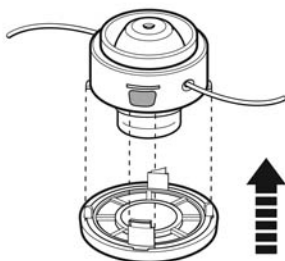

Fig. 35
- > Align the notches in the cover with the notches on the cutting head cover. Then press the cover. (Fig. 35).